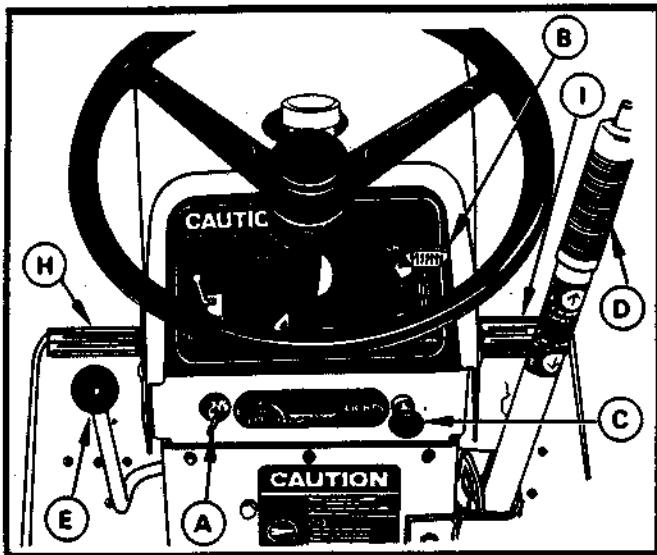
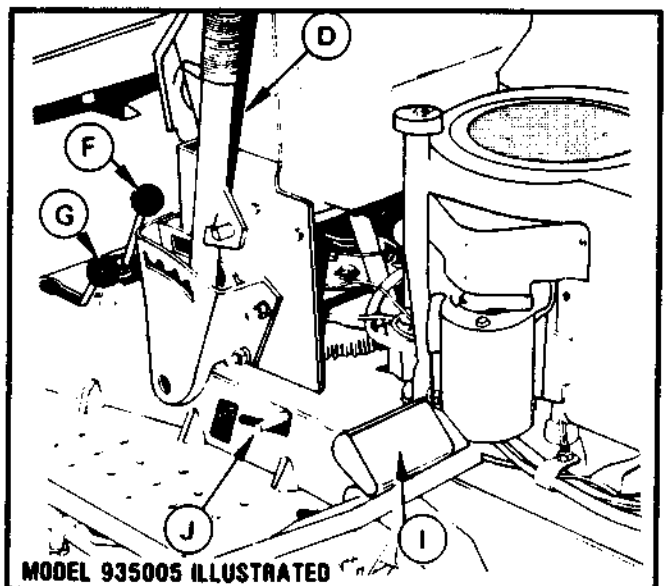

FIGURE 1
FIGURE 3
(A) IGNITION AND STARTER SWITCH — FIGURE 1
(B) THROTTLE-CHOKE CONTROL LEVER — FIGURE 1
(C) LIGHT SWITCH — FIGURE 1
(D) ATTACHMENT LIFT LEVER — FIGURE 1
(E) IMPLEMENT POWER CONTROL — FIGURE 1
(H) CLUTCH PEDAL — FIGURE 1
(I) BRAKE PEDAL — FIGURE 1
(J) PARKING BRAKE LOCK — FIGURE 3
A Parking Brake Lock is provided to prevent the tractor from moving when parked or left unattended. To lock the brake, pull the parking brake lock up with the pedal fully depressed. Then release the brake pedal. Figure 3 shows the parking brake lock engaged. Clutch pedal must not be depressed when locking brake. Parking brake lock may be disengaged by depressing either brake or clutch pedal.
1. Depress Clutch Pedal (H) and hold the tractor in position by depressing the Brake pedal (I). See Figure 1.
3. Place Implement Power Control (E) Figure 1, in the rear (disengaged) position.
4. Raise Throttle-Choke Control Lever (G) Figure 1, past the offset in the slot to the "CHOKE" position.
5. Turn ignition key (A) shown in Figure 1 clockwise all the way. Release key as soon as the engine starts and gradually lower the Throttle Choke Control Lever past the offset until the engine runs at 1/2 throttle.
1. Move the Speed Selector Lever (F) (Figure 1) to the "NEUTRAL" position.
2. Disengage the Implement Power Control (E), Figure 1.
3. Engage Parking Brake Lock (J) by depressing the Brake Pedal (I) (Figure 1) and pulling up on the Parking Brake Lock (J) (Figure 3).
2. Release Parking Brake Lock (A) by depressing the Brake (1) or Clutch Pedal (2) (Figure 1) until the lock disengages.
3. Depress Clutch Pedal, place Speed Selector Lever (3) and High-Low Range Selector (4) (Figure 1) into the desired gear and range and slowly release the pedal to provide smooth acceleration.
5. To raise or lower the attachment use the Attachment Lift Lever (5).
6. To start the attachment, engage the Implement Power Control (6) slowly with the engine running at 1/2 throttle, then increase speed to full throttle.
7. To stop the tractor, fully depress Clutch and Brake Pedals and place Speed Selector Lever in "NEUTRAL". Fully depress Brake Pedal and engage the Parking Brake Lock when parking or leaving the tractor. (Figures 1, 2 & 3)